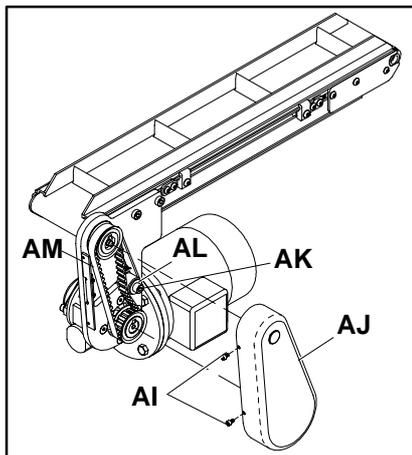

Figure 16: Belt Guard Removal Detail
Disconnect power. Then, remove the screws (AI of Figure 16) securing the belt guard (AJ). Then, remove the belt guard.
Tighten the tensioning bearing assembly cap screw (AK of Figure 16) with 24 Nm of torque.